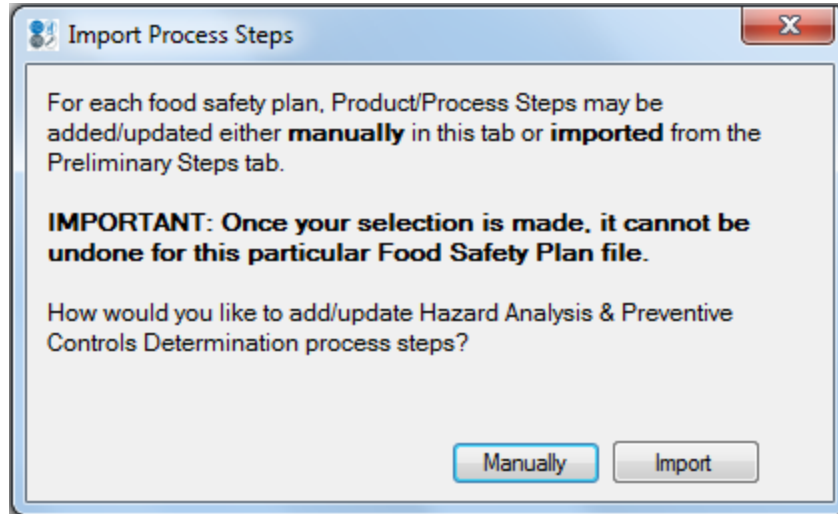

Figure 37: Import Process Steps Option
- b) Select the "Import Process/Product Names and associated Process Steps from Preliminary Steps tab" (Figure 36). Process steps from the Preliminary Steps tab will appear, along with questions to be answered for each process step (Figure 37). Please Note: You must return to the Preliminary Steps tab to make changes to the process steps in your flow-diagram. To reflect these changes in the Hazard Analysis and Preventive Controls Determination tab, you must again select the "Import Process/Product Names and associated Process Steps" button.